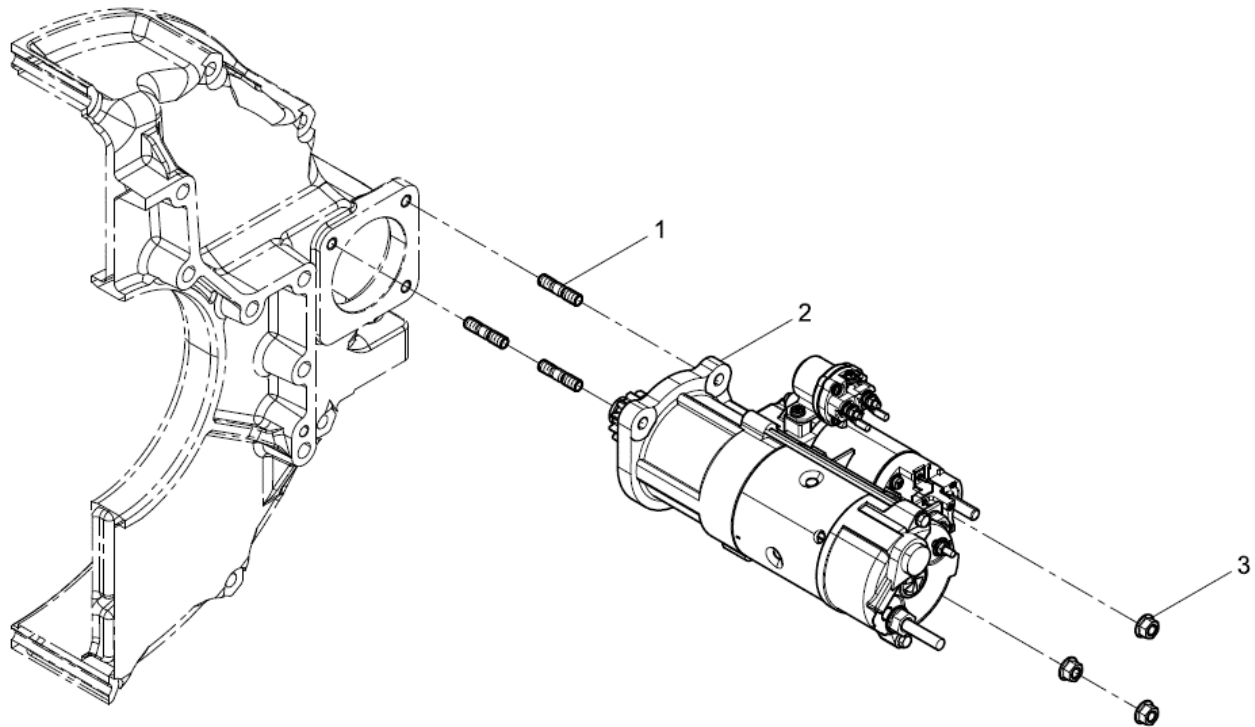

Figure 139. Starter Motor Assembly
2. With a 16mm wrench remove the starter nuts (Figure 139, Item 3)
3. Remove the starter (Figure 139, Item 2).
2. Place the starter motor (Figure 139, Item 2) into the flywheel cover and ensure it is engaged correctly.
3. Insert and torque the starter nuts (Figure 139, Item 3).